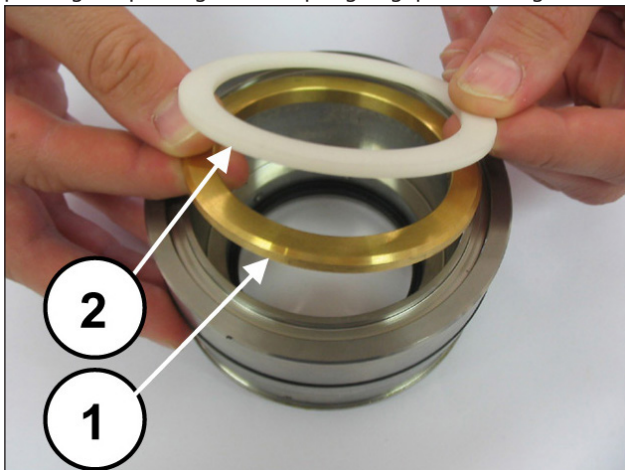
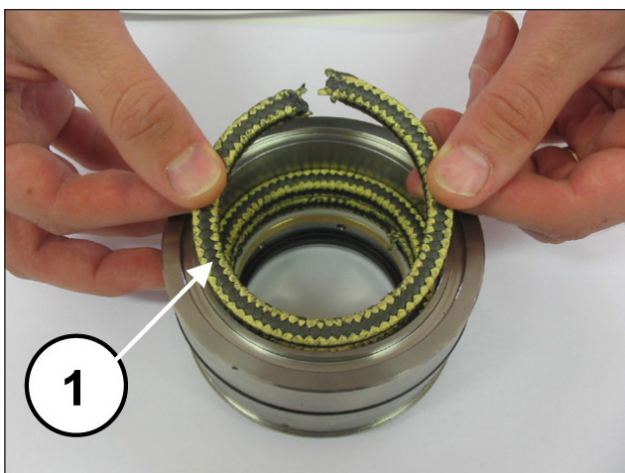
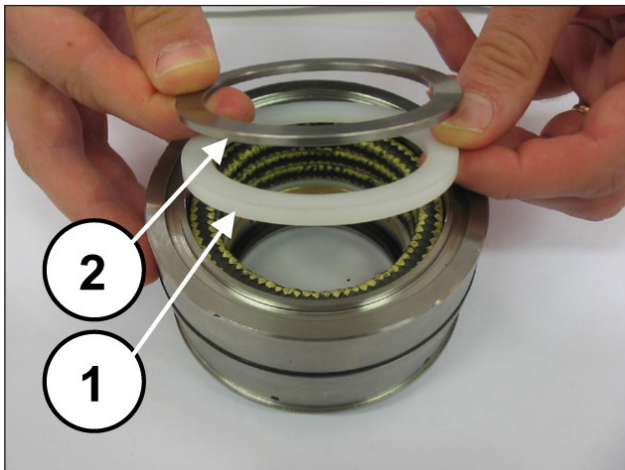

Fig. 195
Fig. 196
Fig. 197
Assemble the support ring and the anti-extrusion ring (pos. ①②, Fig. 195), the three packings making sure the notches are at 120° from each other (pos. ①, Fig. 196), the packing scraper ring and the spring ring (pos. ①②, Fig. 197).